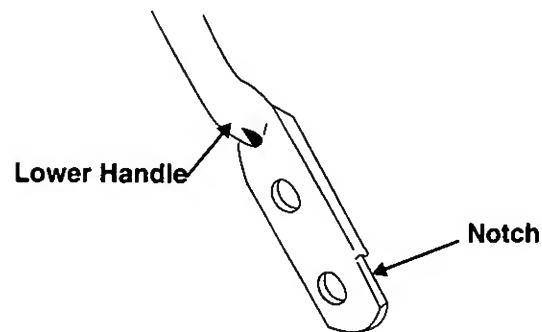

Figure 10.
- Turn the lower handle around so the notch on the bottom of the lower handle is facing forward as shown in figure 10. Reassemble, placing the bottom holes in the handle over the weld pins in the handle mounting bracket.